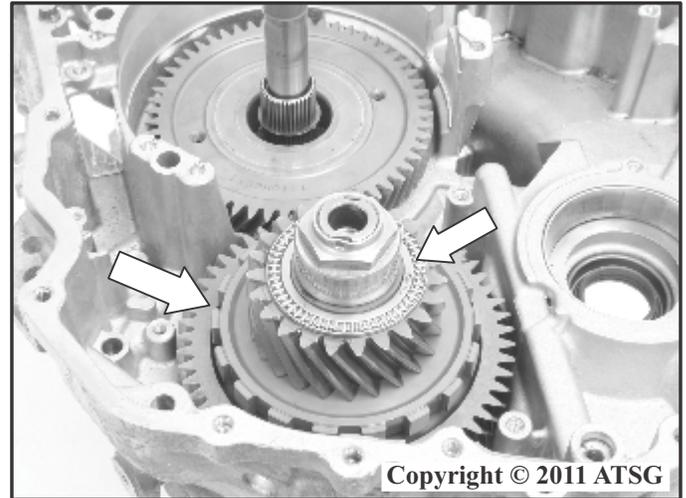

Figure 45
59. Remove the front differential transfer drive gear thrust bearing from the transfer drive gear assembly as shown in Figure 45.
60. Remove the front differential transfer drive gear thrust bearing race from the transfer drive gear assembly as shown in Figure 45.
61. Using Universal Clamp Press J 45053 or other adequate puller device, attach the clamp and carefully remove the front differential transfer drive gear assembly from the transmission case as shown in Figure 45.